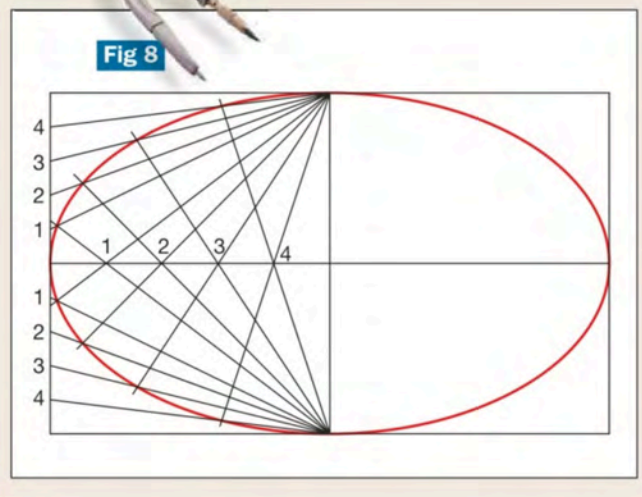

Fig 8
■ The radial lines method, fig 8. Draw the two axes as above, and enclose these in a rectangle. Divide the major axis into a number of equal parts (see section 3, left), and divide the side of the rectangle that's equal to the length of the minor axis into the same number of equal parts.